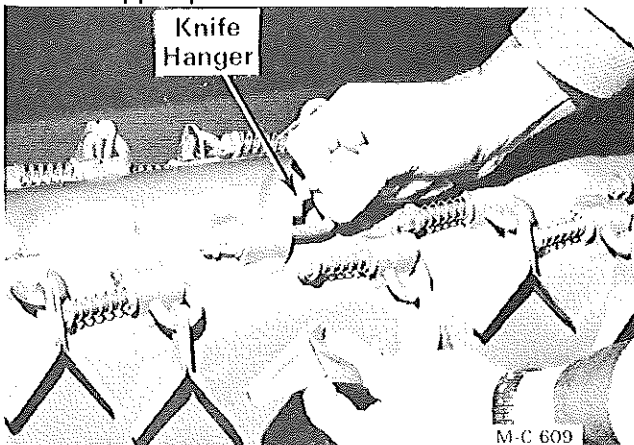

Figure 19 - Tapered Knives - Below S/N 47349
2. The knives can be reversed to expose a new cutting edge or replaced by pulling the knife hanger back until it clears the knife hanger support, see Figure 19.
**NOTE:** The tapered knives, shown in Figure 19 and 20, are no longer available. They have been